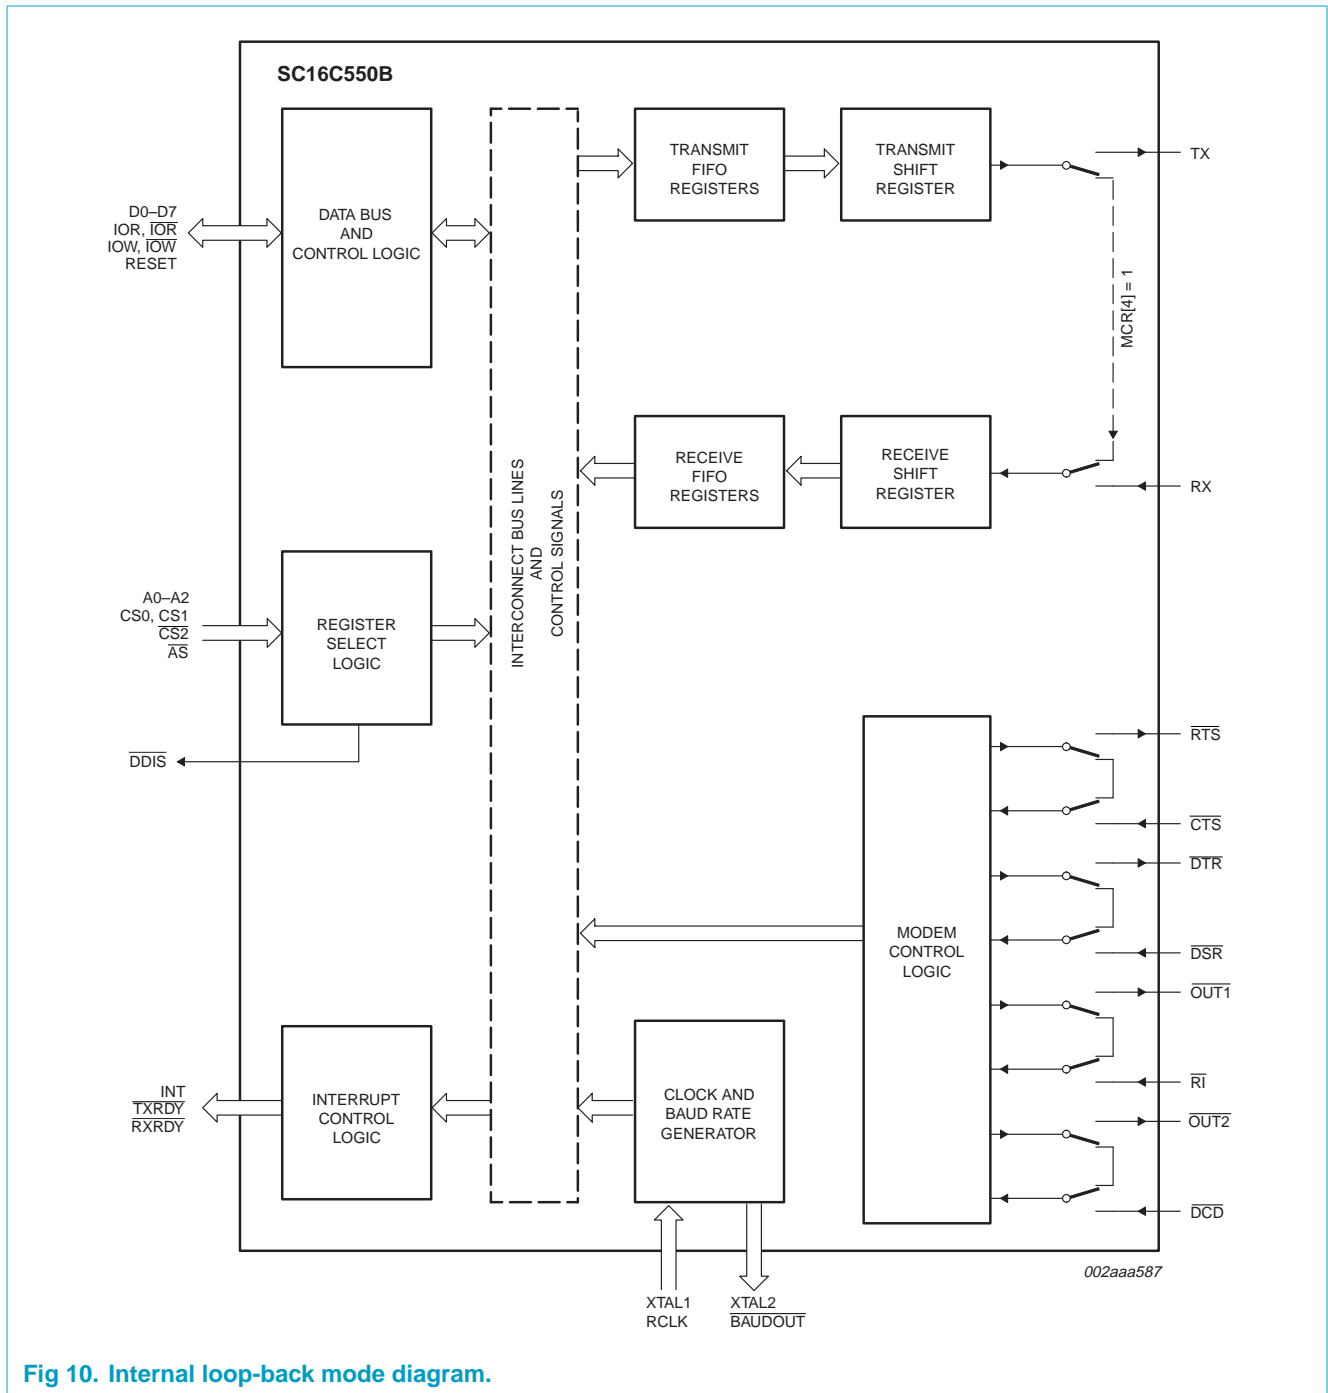

Fig 10. Internal loop-back mode diagram.
The internal loop-back capability allows on-board diagnostics. In the loop-back mode, the normal modem interface pins are disconnected and reconfigured for loop-back internally. MCR[0:3] register bits are used for controlling loop-back diagnostic testing. In the loop-back mode, OUT1 and OUT2 in the MCR register (bits 3-2) control the modem  $\overline{RI}$  and  $\overline{DCD}$  inputs, respectively. MCR signals  $\overline{DTR}$  and  $\overline{RTS}$  (bits 0-1) are used to control the modem  $\overline{CTS}$  and  $\overline{DSR}$  inputs, respectively. The transmitter output (TX) and the receiver input (RX) are disconnected from their associated interface pins, and instead are connected together internally (see Figure 10). The  $\overline{CTS}$ ,  $\overline{DSR}$ ,  $\overline{DCD}$ , and  $\overline{RI}$  are disconnected from their normal modem control input pins, and instead are connected internally to  $\overline{DTR}$ ,  $\overline{RTS}$ ,  $\overline{OUT1}$  and  $\overline{OUT2}$ . Loop-back test data is entered into the transmit holding register via the user data bus interface, D0-D7. The transmit UART serializes the data and passes the serial data to the receive UART via the internal loop-back connection. The receive UART converts the serial data back into parallel data that is then made available at the user data interface D0-D7. The user optionally compares the received data to the initial transmitted data for verifying error-free operation of the UART TX/RX circuits.